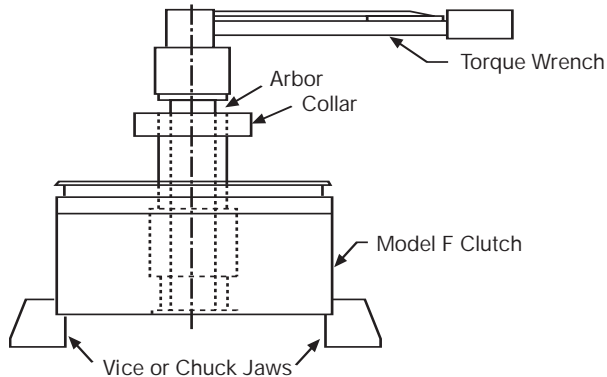

Figure 16
2. Insert the appropriate size arbor and key into rotor. (See Figure 16)
- If the unit is a Model FJ or FG, place the locking collar (13) onto the sawcut section of the rotor and tighten. If the clutch is a Model FR, remove the access screw from the hole stamped 22 on the housing. Insert hex wrench through this hole and tighten the rotor setscrew. Replace the access screw.